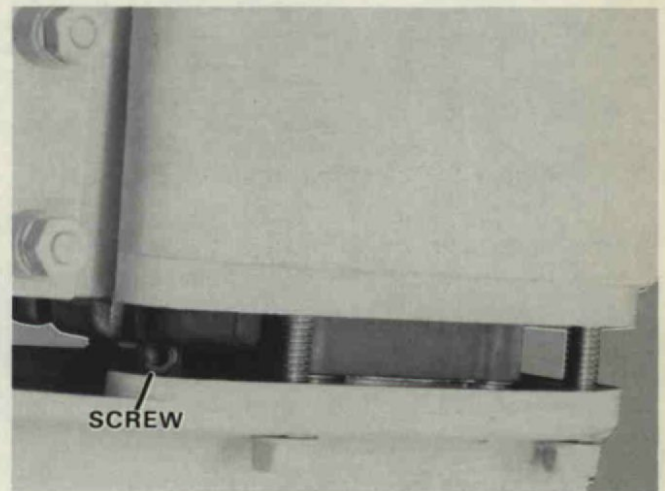

Figure 1. Removing Gear Housing from Motor Leg.
D. Remove screw and pull gear housing from motor leg. Figure 1.